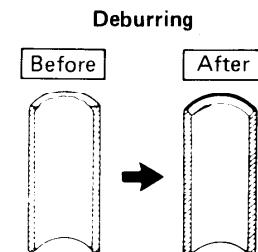

Fig. 23
- b) Remove burrs at the end of the copper tube with a reamer or a file. This process is important and should be done carefully to make a good flare. Fig. 23